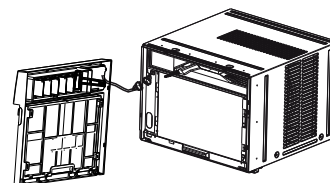

Fig.4
6. Disconnect the connector plug of the display panel from the unit and place front panel to one side (see Fig.4).